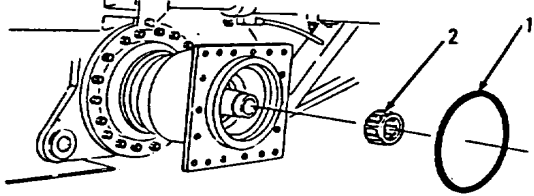

Figure 5-125.
1. Remove preformed packing (1) and roller bearing (2, Figure 5-125) from lower rear, left side of vehicle. Discard preformed packing (1).